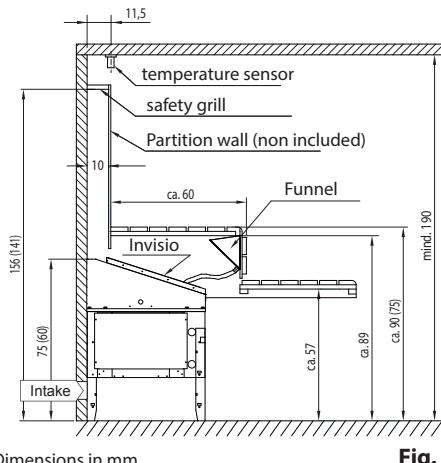
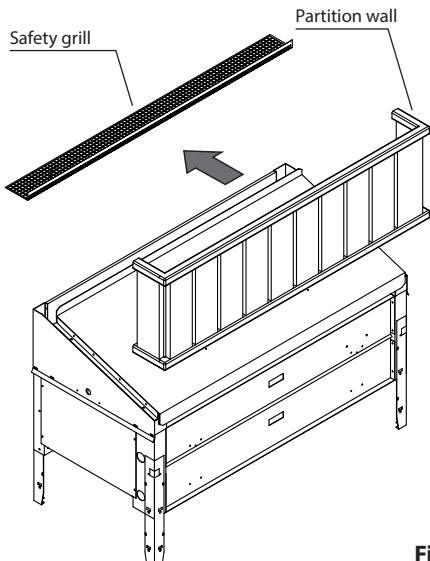

Fig. 1
Fig. 8
The distance between partition wall or sauna bench or other flammable materials and the sauna heater shall be as shown below on Fig. 1.
The supplied safety grill shall be mounted along the top edge of the partition wall between this partition wall and sauna wall (Fig. 1). This shall prevent that an object may be accidentally dropped on the sauna heater.
**Contradictory to the advice concerning the mounting of the temperature sensor of your sauna control unit, the temperature sensor shall not be mounted on the ceiling above the sauna heater but, as shown in the diagram (Fig. 1). See page 26 for more details.**
- Contradictory to the advice concerning the installation of the sensor given in the sauna control unit manual, the temperature sensor shall be mounted centered to the heater on the ceiling 11,5 cm from the rear wall and min. 80 cm from the side walls See Fig. 1.
- Install the partition wall so that the minimal safety clearances are observed. See Fig. 1 (page 8) and Fig. 8. The partition wall is not included with the heater.